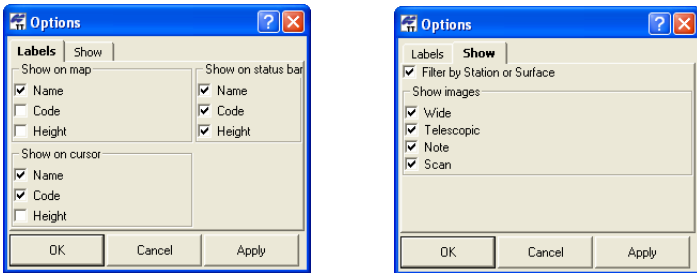

Figure 4-58. Image tab -> Labels and Show Options
2. On the *Labels* tab, enable the desired settings (Figure 4-58). Click *Apply* to save the settings and make further changes.
3. On the *Show* tab, enable the desired settings (Figure 4-58). Click *Apply* to save the settings and make further changes.